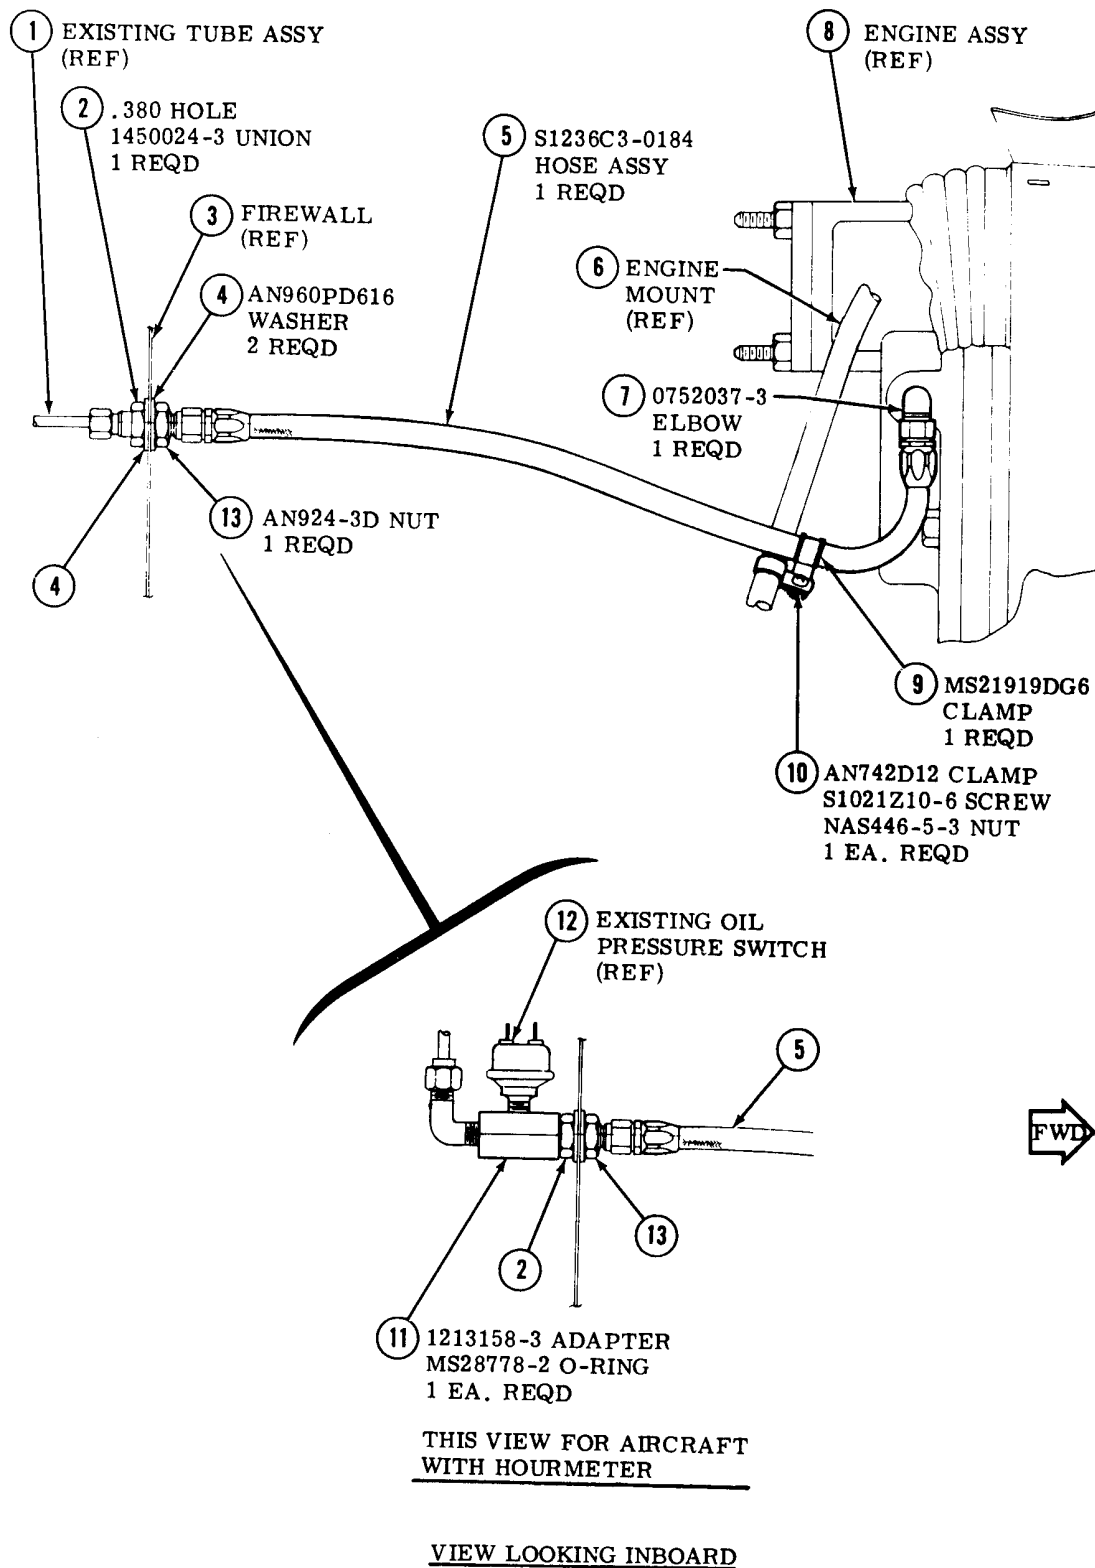

Figure 1. Oil Pressure Line Installation.
a. (Refer to figure 1.) Oil Pressure Line Installation.
- (1) Remove engine cowl and attach hoist to engine.
- (2) Disengage upper engine shock mounts and tilt engine forward sufficiently to gain access to oil pressure line connection at the engine.
- (3) Remove existing oil pressure line.
- (4) Remove existing elbow from engine and install elbow (7). Place elbow in a vertical position as shown.
- (5) Remove existing fitting from firewall (3) and existing oil pressure line (1) as required.
- (6) Enlarge hole in firewall to .380 DIA. hole (2).
- (7) Install union (2) in hole in firewall and secure with washers (4) and nut (13) as shown.
- (8) Interconnect elbow (7) and union (2) with hose assembly (5) as shown.